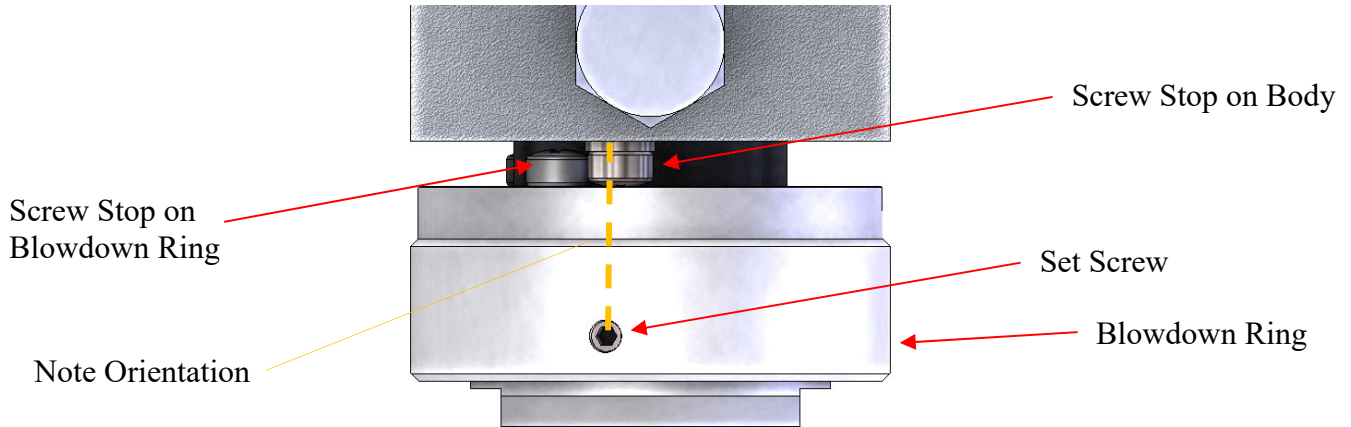

Figure 54: Initial Blowdown Ring Orientation
38. Install the blowdown ring onto the blowdown nut. See Figure 54.
- b) Make sure the blowdown ring stops are set to have the most adjustment. This can be done by aligning the set screw hole with the blowdown stop on the body as shown in Figure 54.